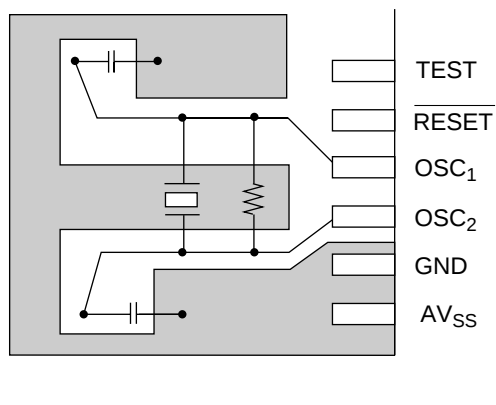

Figure 13-2 Wiring Examples for Crystal and Ceramic Oscillators
- The distance between the OSC_1 and OSC_2 pins and the devices connected to those pins should be kept as short as possible. Do not allow any other lines to cross those lines. (See figure 13-2.) Correct oscillation may become impossible due to induced signals if any lines cross.